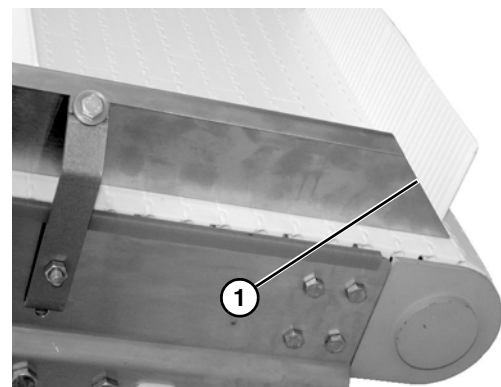

Figure 20
*When installing guides, be sure that the angled end of guide is installed on the idler end of conveyor (**Figure 20, item 1**).*